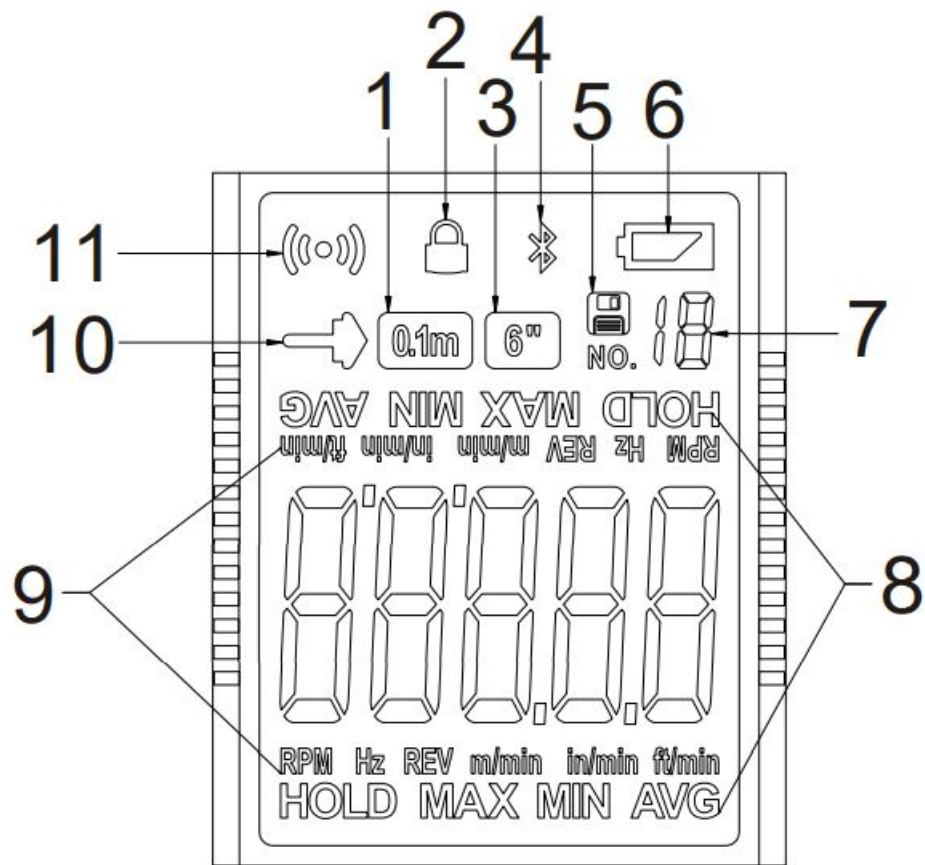

Figure. 2
- 6 VI. Screen Indicators/Icons (Figure 2)
VI. Screen Indicators/Icons (Figure 2)